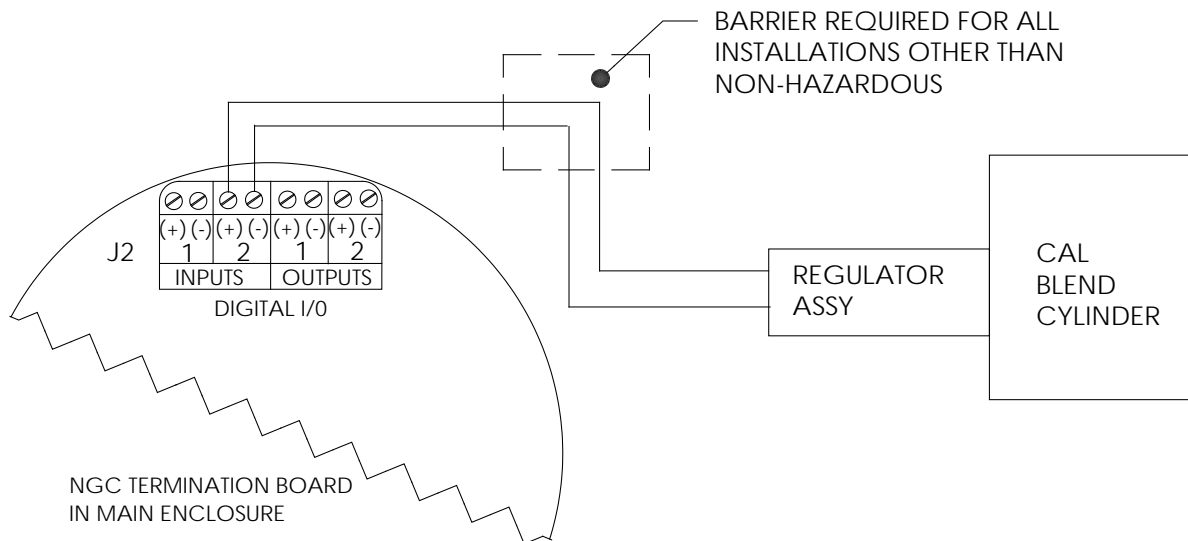

Figure 3-44 Calibration Blend Low Pressure Switch Wiring Instruction
- 5) Remove the J2 field wiring connector from the NGC termination panel located inside the rear of the main enclosure (see Figure 3-44).